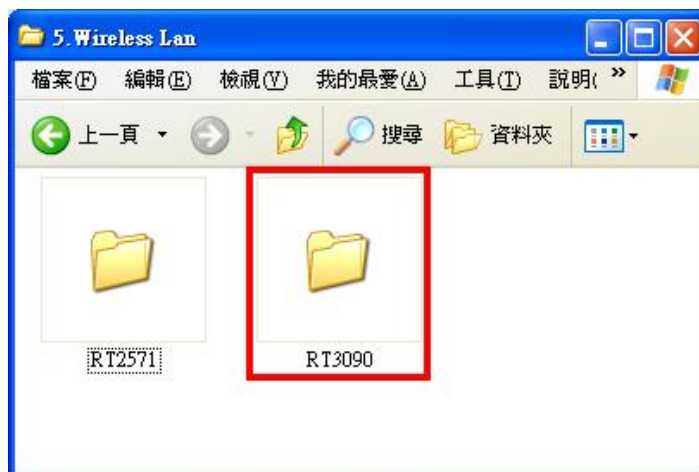

Figure 7-39: Wireless Driver OS Folders
Step 2: A new window opens (**Figure 7-39**). Select the **RT3090** folder. Double click the .exe file to install the wireless LAN driver.